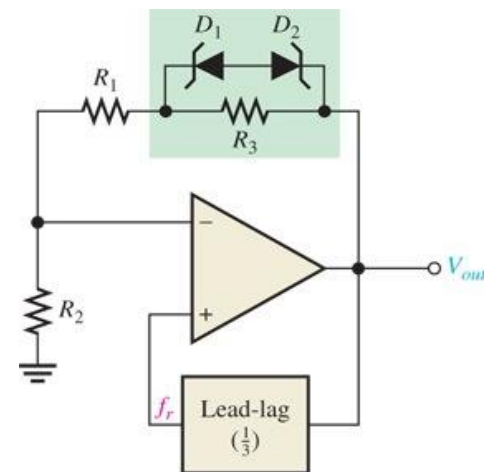

Figure 10 Self-starting Wien-bridge oscillator using back-to-back zener diodes.
- The circuit in Figure 10 illustrates a method for achieving sustained oscillations.